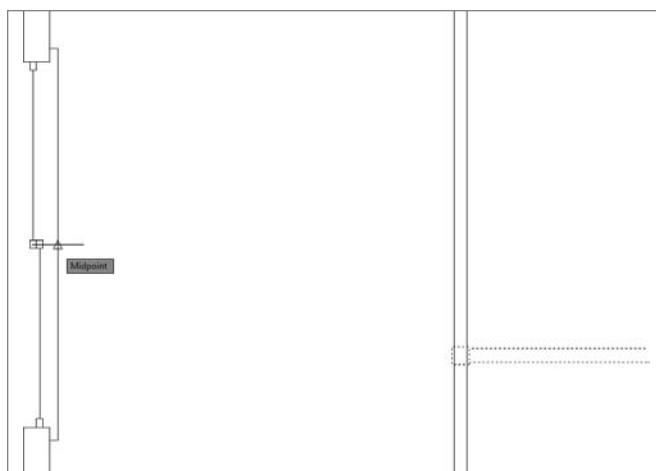

FIGURE 5.24 Using the midpoint of the threshold as the first mirror point
4. Use the Midpoint osnap and then specify the midpoint of the vertical threshold line as the first point of the mirror line, as shown in Figure 5.24.